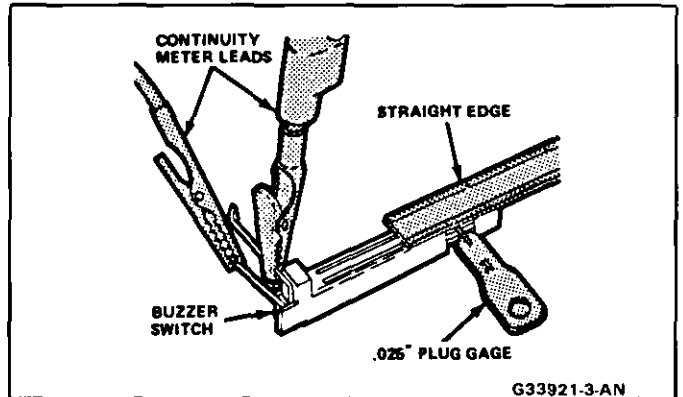
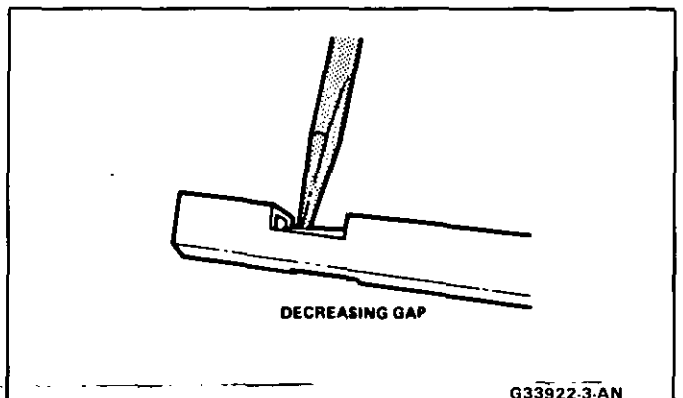

Fig. 10 Checking Contact Gap
Fig. 11 Adjusting Contact Gap
9. With positive contact at 0.8 mm (.030"), use a 0.6 mm (.025") plug gap wire beneath the flat stock (Fig. 10). No contact should occur. If contact is made, adjust as shown in Fig. 11. When the switch will make contact with the 0.8 mm (.030") wire but not with the 0.6 mm (.025") wire, the switch is set properly.